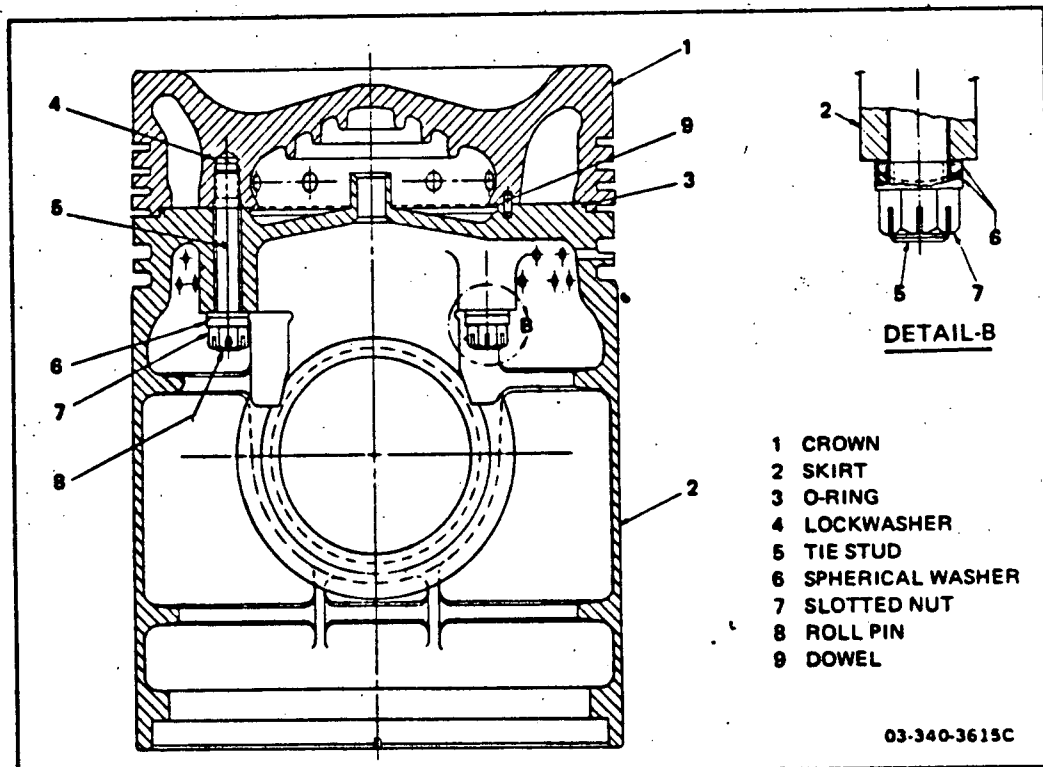

Figure 6-C-7. Piston Assembly
(3) Clean parts thoroughly. If crown is to be replaced, place a 3/8-inch steel lockwasher in each of the four tie stud holes, making sure they are resting square in the bottom of the hole. Install four tie studs and bottom out against lockwasher in the hole. Torque studs to 215 ft-lb. Install dowel in dowel hole in crown.
(4) Assemble new O-ring on the crown, then lower skirt over the four tie studs. Correct position is determined by the dowel in the crown.
(5) Install spherical washers on studs. The convex half of the washer must be installed first, flat side against the piston skirt. The concave half is then installed with the flat side towards the nut end of the stud. See Figure 6-C-7.
(6) Assemble the slotted nuts and torque to 120-160 ft-lb. Install roll pin through each slotted nut.